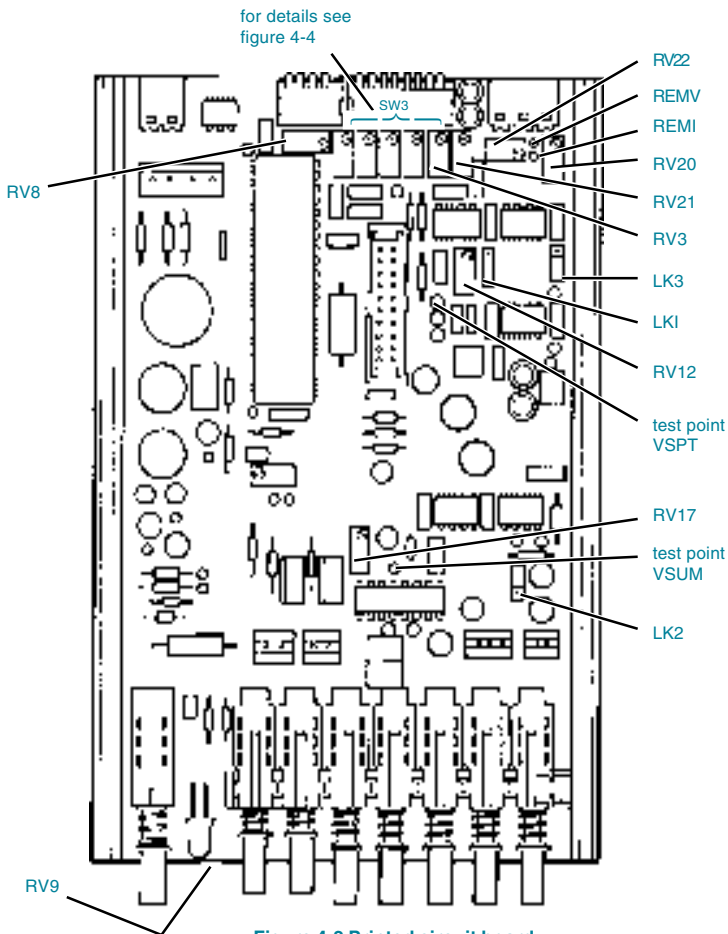

Figure 4-2 Printed circuit board
Procedure (Figure 4-2)
4.3.1 Current Input (Figure 4-2)
4.3.2 Voltage Input (Figure 4-2)**Preparation**